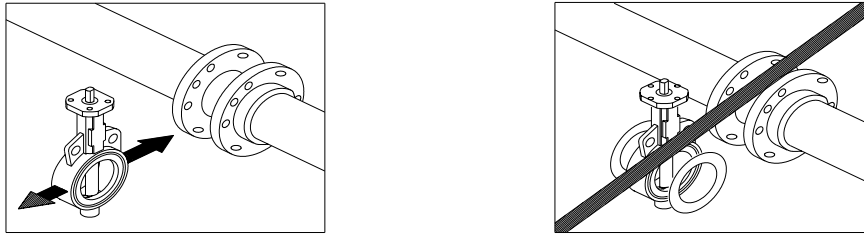

Fig 3.4 : Installation of valve into pipe line.
b) Do not use flange gaskets Ref to fig 3.4.